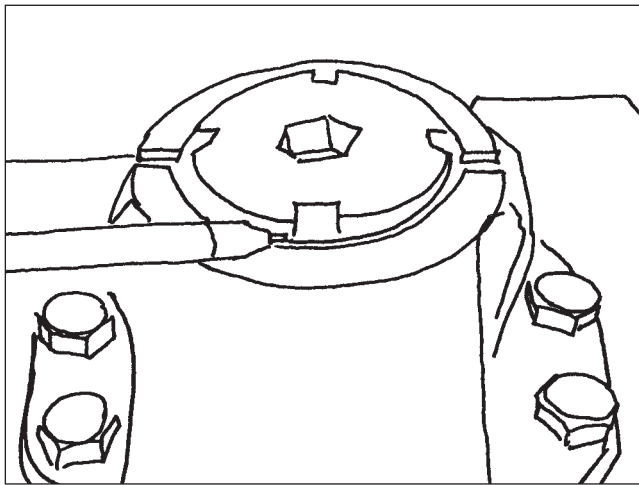

Figure 59
10. After the specified torque value is reached continue torquing until two of the restraining tabs of the tab washer align with the notches in the retainer (Figure 59).